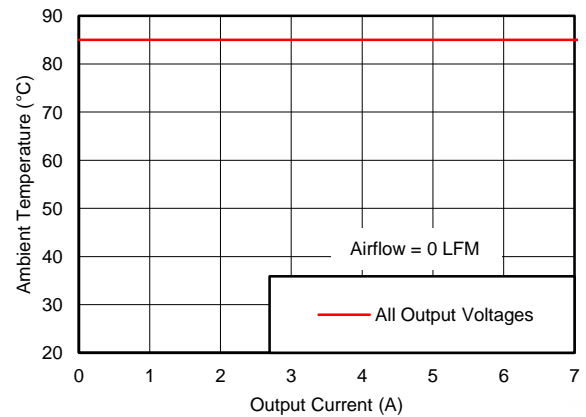

Figure 5. Safe Operating Area
- (2) The temperature derating curves represent the conditions at which internal components are at or below the manufacturer's maximum operating temperatures. Derating limits apply to devices soldered directly to a 100 mm × 100 mm, 4-layer PCB with 2 oz. copper. Applies to Figure 5.